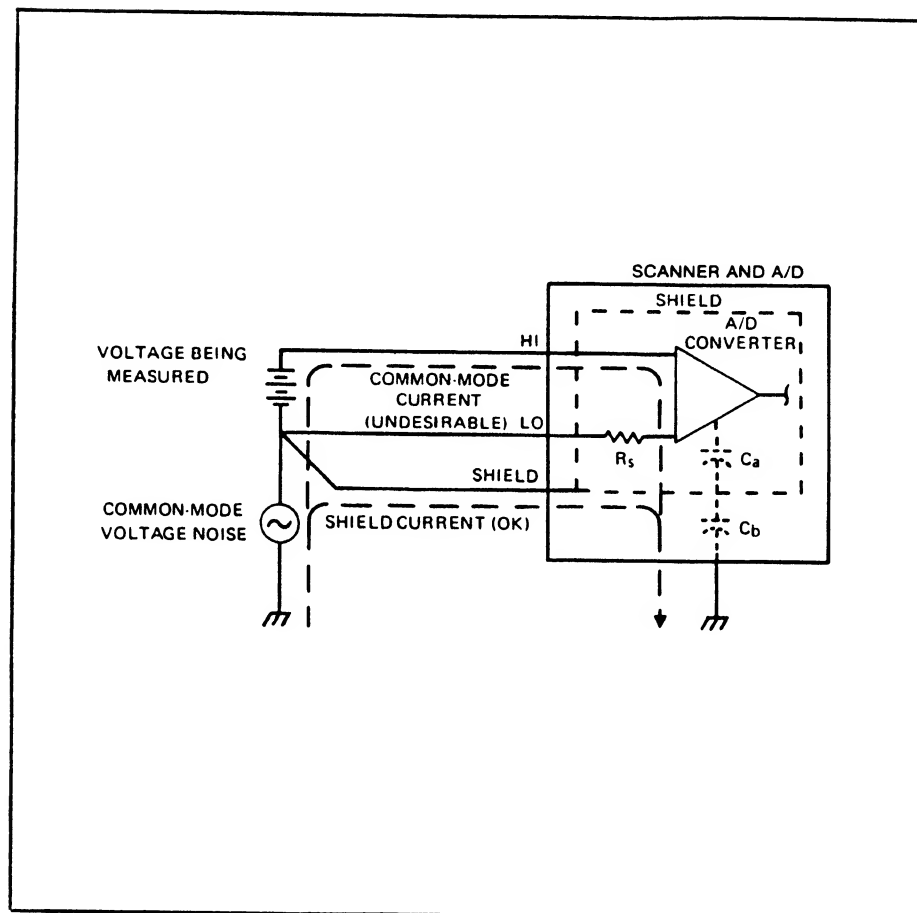

Figure 176-2. Shield Connection for Optimum Common Mode Rejection
Current resulting from a capacitive charge and discharge between the A/D Converter and the chassis can produce unstable readings. Therefore, a path for this current is utilized by connecting the SHIELD lead to the LOW lead at the measurement point. This arrangement (shown in Figure 176-2) improves common-mode noise rejection. With the A/D Converter and the instrument shield tracking the same voltage, common-mode current in the HI and LOW leads is minimized. Note that HI, LOW and Shield are fully isolated and capable of being safely floated to 250 volts above ground.
2. If significant common mode voltage (greater than one volt) is present, connect SHIELD to LOW by means of a third wire at the measurement point. This arrangement is shown in Figure 176-2.